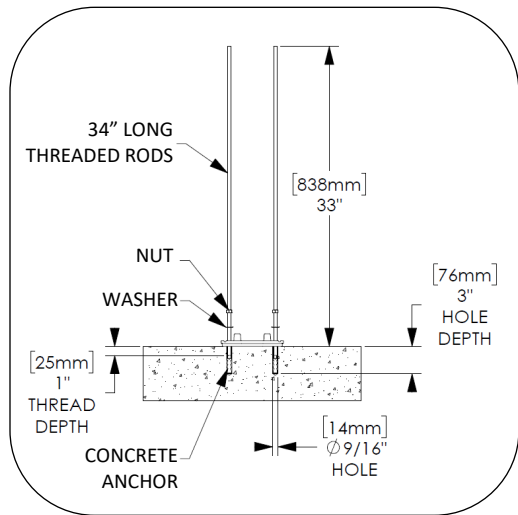

Fig. 4 – install threaded rods – surface mt
4. Drill holes according to Fig. 4.
11. Install washers and threaded rods. Height from grade to top of installed threaded rod is 33", see Fig. 4.